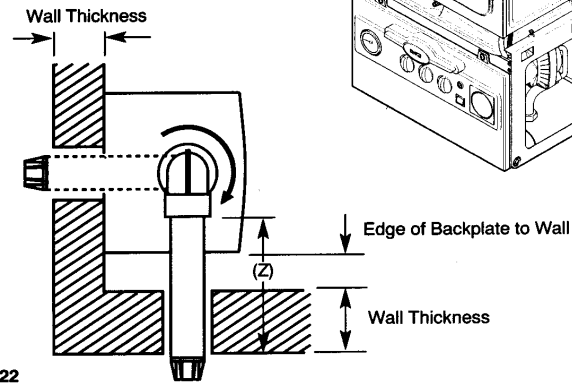
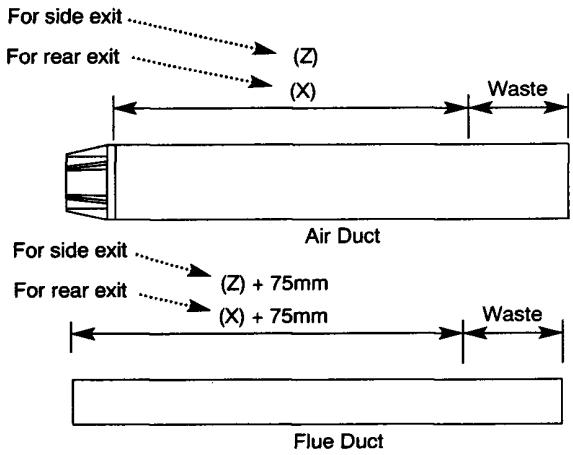

Fig. 22
Fig. 24
4. **For rear exit** - measure the wall thickness (Fig. 22 & 23) and to this dimension add 100mm. This dimension to be known as (X).
i.e. (X) = wall thickness + 100
5. Take the air duct and mark off (X) from the terminal end as indicated in the diagram (Fig. 24) and cut to size.
6. Take the flue duct and add 75mm to the dimension (X) (Fig. 24) and cut to size.
7. **For side exit** - measure the distance from the edge of the backplate to the inner face of the wall (Fig. 22) and to this dimension add the wall thickness + 150mm. This dimension to be known as (Z).
i.e. (Z) = backplate to wall + wall thickness + 150
8. Take the air duct and mark off (Z) from the terminal end as indicated in the diagram (Fig. 24) and cut to size.
9. Take the flue duct and add 75mm to the dimension (Z) (Fig. 24) and cut to size.